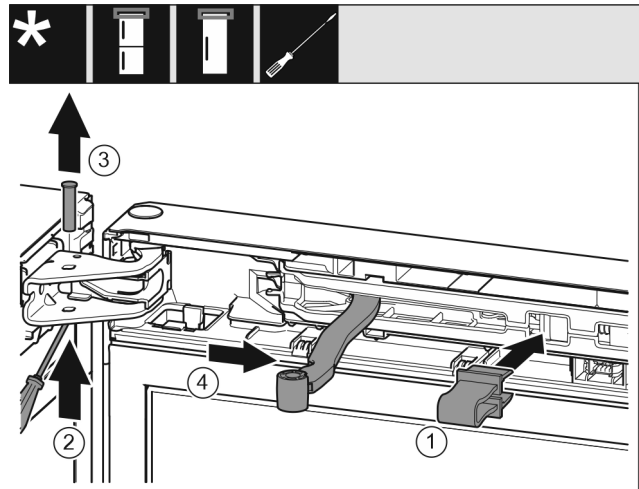

Fig. 7
- ▶ Engage the locking device in the opening. Fig. 7 (1)
- ▶ Unscrew the bolt with a screwdriver. Fig. 7 (2)
- ▶ Remove the bolt upwards. Fig. 7 (3)
- ▶ Turn the hinge in the direction of the door. Fig. 7 (4)